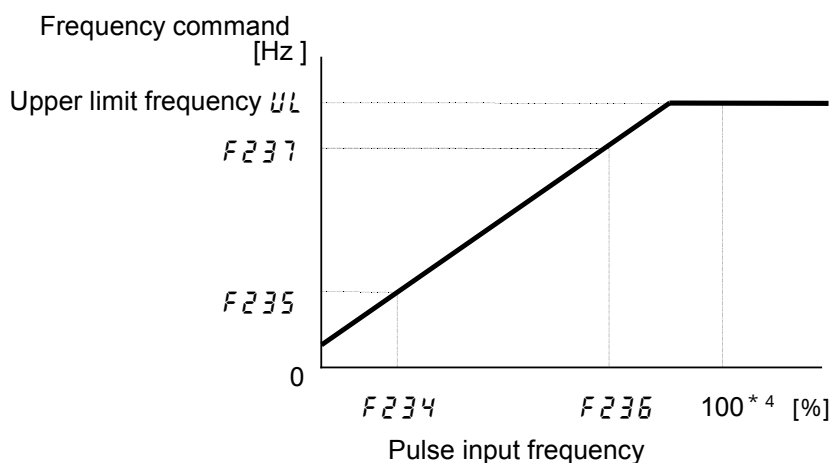

Figure 4-7 Pulse input frequency and frequency command value
*2: Gain and bias adjustment method against the pulse input frequency is as expressed in Figure 4-7.